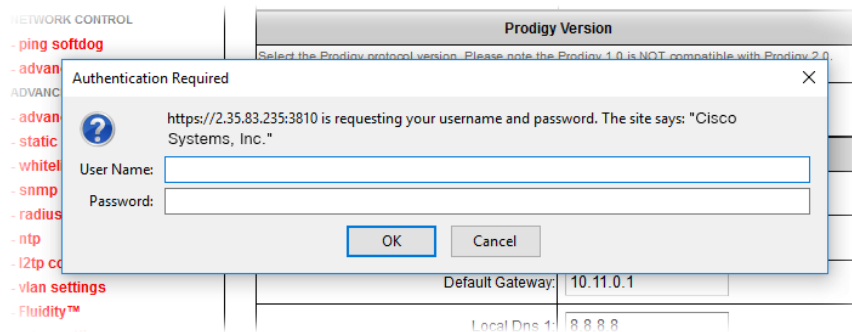

Figure 63. Web browser (Authentication Required dialog)
- The web browser will show the **Authentication Required** dialog (Figure 63 \(page 138\)). If needed, use the dialog to log in again.